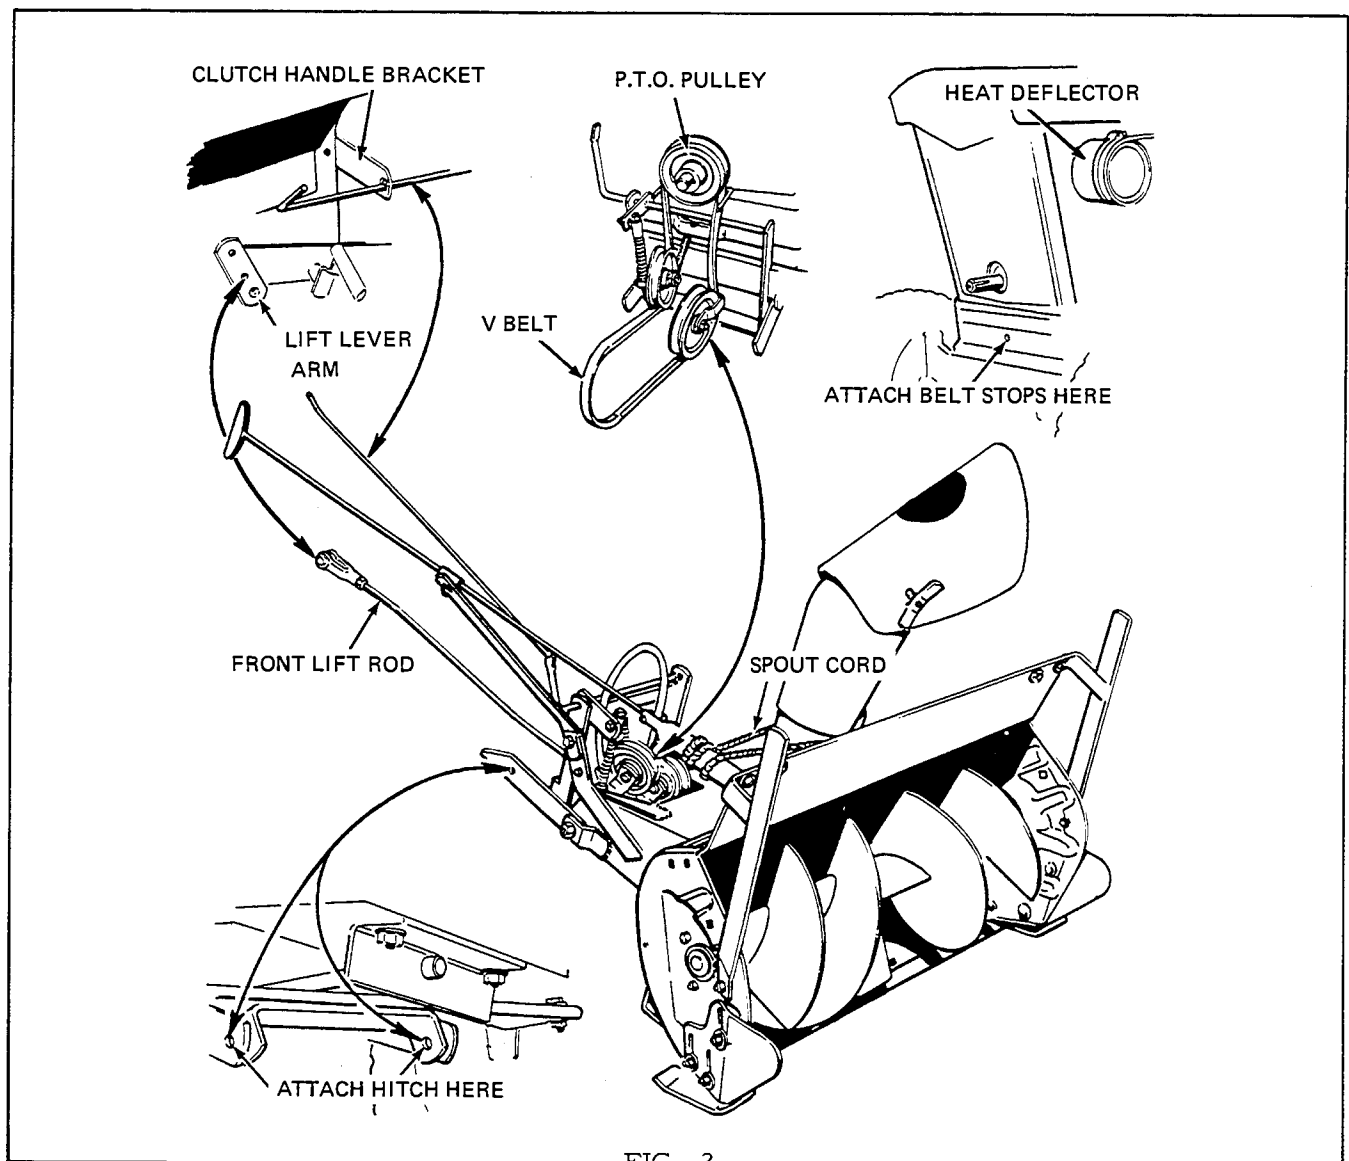

FIG. 2
5. Remove 5/16-18-1/4 long hex capscrew, lock and plain washer from tractor directly below front mounted P.T.O. shaft. Insert through two belt fingers and reassemble. DO NOT TIGHTEN. (See Fig. 2).
6. Attach front mounted P.T.O. pulley to shaft. Secure 3/8-24NF setscrew down on key. (See Fig. 2).
7. Attach hitch assembly to tractor with two pins and two spring clips. (See Fig. 2).
8. Place belt around front mounted P. T. O. pulley. (See Fig. 2). The belt should be a minimum of 54-1/4" in length.
13. Position discharge spout directly forward. Position control tube so that cord clamp faces side of spout. Provide two (2) coils of cord on both sides of clamp. Position free ends of cord around spout and clamp securely into position after removing all slack from cord. (See Fig. 2).
14. Remove forward, top capscrew from R.H. side panel. Insert clutch handle bracket between side panel and side member of fuel tank and steering post support assembly. Secure with same capscrew and lockwasher. (Fig. 2)
15. Insert clutch control rod through bracket and attach to clutch pivot and secure in place with spring clip. (See Fig. 2). The addition of plain washers, nylon washers and locknut to the clutch linkage assembly will assure a positive disengagement when the clutch handle is pulled in the disengaged position. The locknut should be set to a torque setting of 4 ft. lbs. It should require
17. The lift lever quadrant on the side of the tractor contains a series of holes and a pin. Place pin in the foremost hole of quadrant and secure in place with hair pin cotter. Release lift lever and place in a forward position. Attach yoke end of front lift rod to lift lever arm using top hole in R.H. side of tractor, with yoke pin and hair pin cotter. Insert lower end of lift rod into lift arm bracket of push bar and secure with hair pin cotter. The lower end of front lift rod is to point away from tractor. (See Fig. 2).
18. Position heat deflector over muffler and adjacent to engine. Flap of deflector to be positioned against air cleaner. Secure with clamp provided. (See Fig. 2).